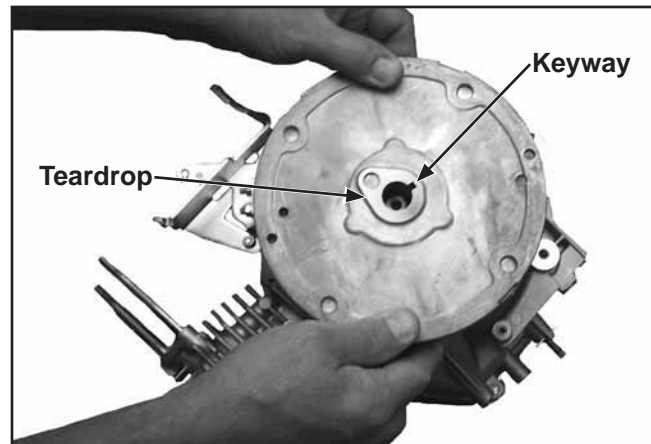

Figure 10-28. Installing Flywheel.
2. Install the flywheel onto the crankshaft aligning the keyway with the key. See Figure 10-28.